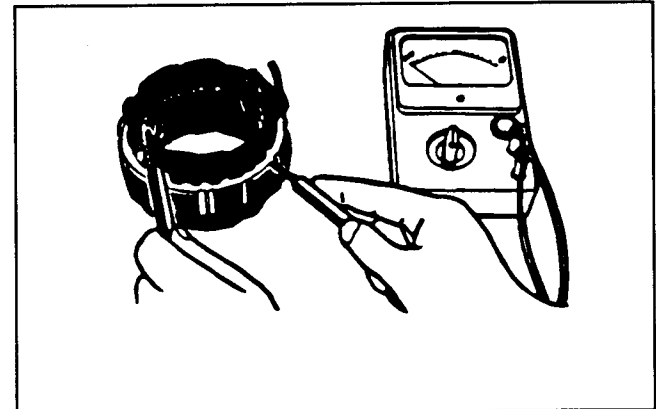

Figure 57
13. Check for continuity between each lead wire and stator core (Fig. 57). Replace the stator coil if there is continuity.